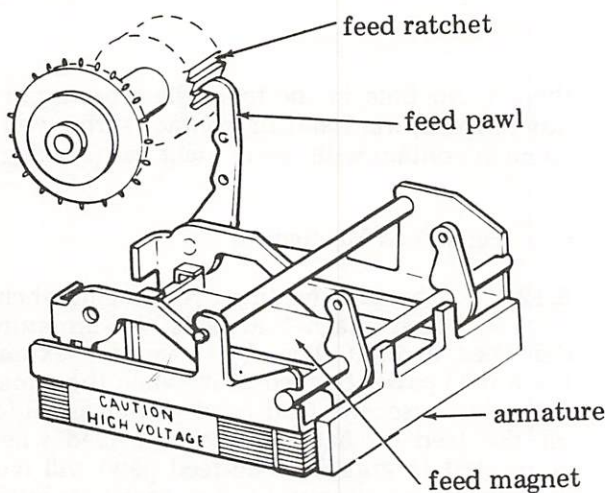

Figure 7 - Feed Pawl Engagement
3.12 The tape feeding cycle begins when the feed magnet attracts the armature as described in 3.09. The right armature extension has a feed pawl attached to it. When the armature extensions rise, the feed pawl will engage a tooth on the feed ratchet to which the feed wheel is connected (Figure 7). The feed pawl will remain in its raised position until the actions are initiated and take place.